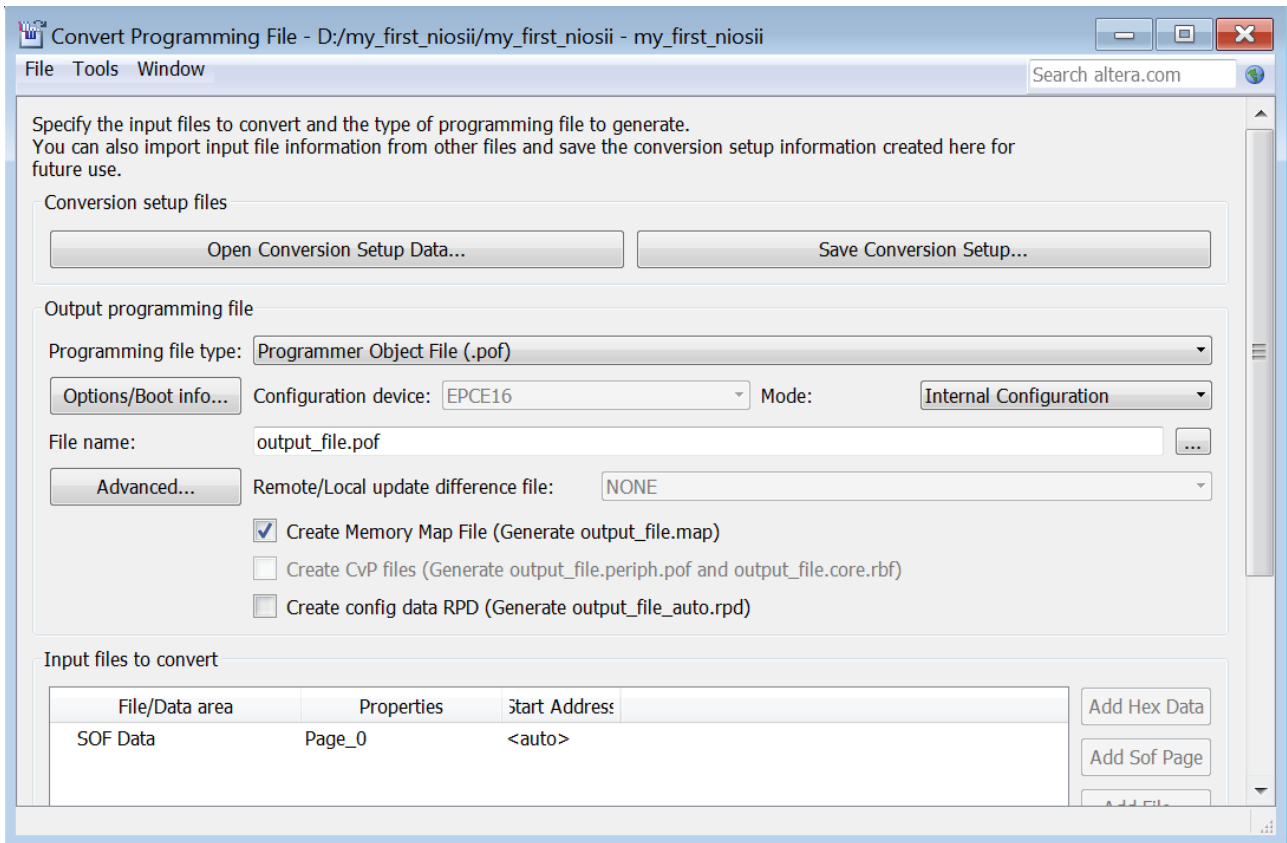

Figure 3-13 Settings of Convert Programming File
2. Set **Programming file type** to **Programmer Object File(.pof)** and **Mode** to **Internal Configuration**, as shown in **Figure 3-13**.